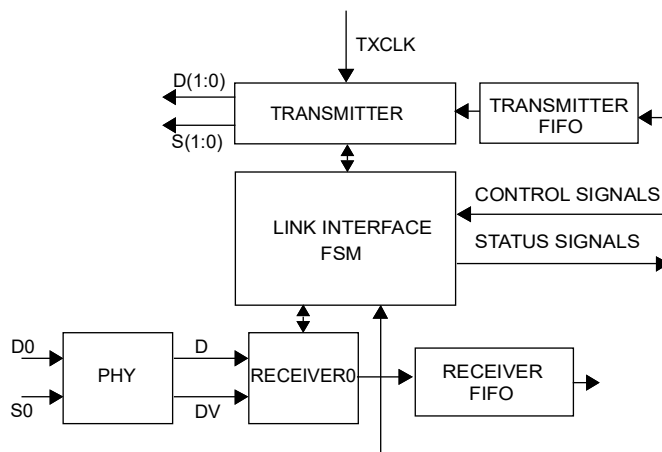

Figure 61. Block diagram
33.3.1 Each SpaceWire port comprises a SpaceWire codec that implements an encoder-decoder compliant to ECSS-E-ST-50-12C [SPW]. The interface to the router's switch matrix consists of a transmit FIFO, receive FIFO, and control and status signals, see Figure 61. The transmit and receive FIFOs can both store up to 64 N-chars. All the configuration parameters and status information for the ports are accessible through the router's configuration port, either through RMAP or AMBA AHB (see section 33.6).